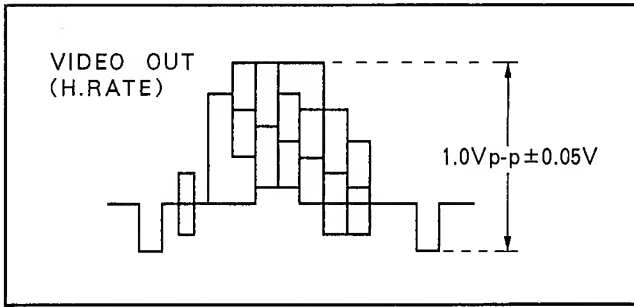

Fig. E2
2. Adjust VR3601 so that Y level is 1.0V ± 0.05Vp-p. (Refer to Fig. E2)